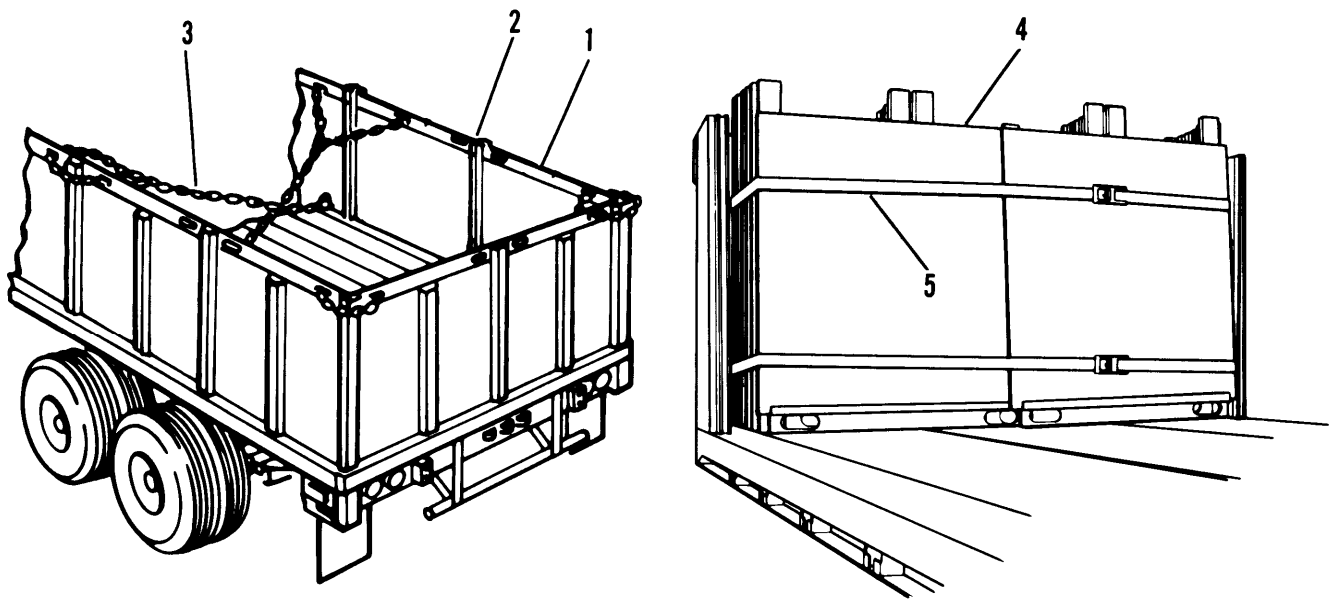

Figure 2-5. Side Panels
a. The side panels (1, fig. 2-5) are used to contain bulk cargo such as bags of grain or sand.
b. Side panels (1) are installed in sill holes between the side stakes (2).
c. Side stakes (2) are installed into the sill holes. They hold side panels (1) in place.
d. Spreader chains (3) aid in supporting side panels (1) to contain bulk cargo.
e. The side stakes (2) and side panels (1) are stowed against the forward bulkhead (4) when not in use.
f. Side panel stowage retainer straps (M871) (5) or chains (M871A1) are used to retain side panels (1) in stowage.